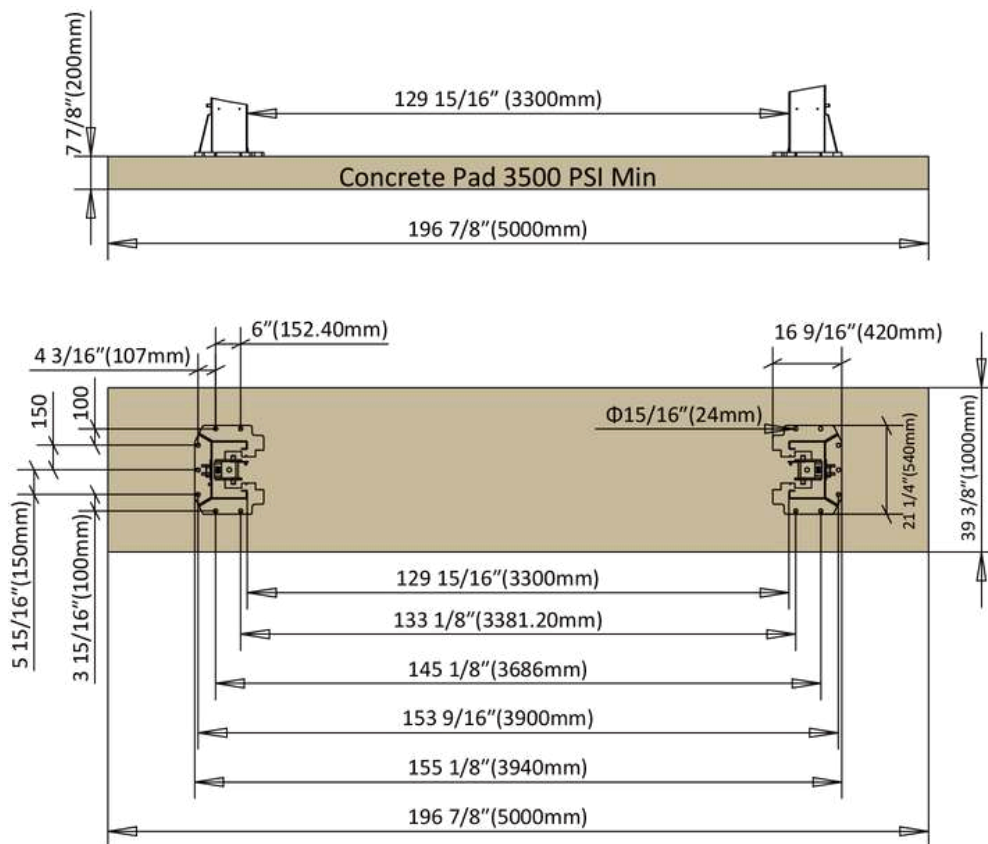

FIG 4
- ◇ Use a carpenter's chalk line to establish installation layout of baseplate(See Fig4).